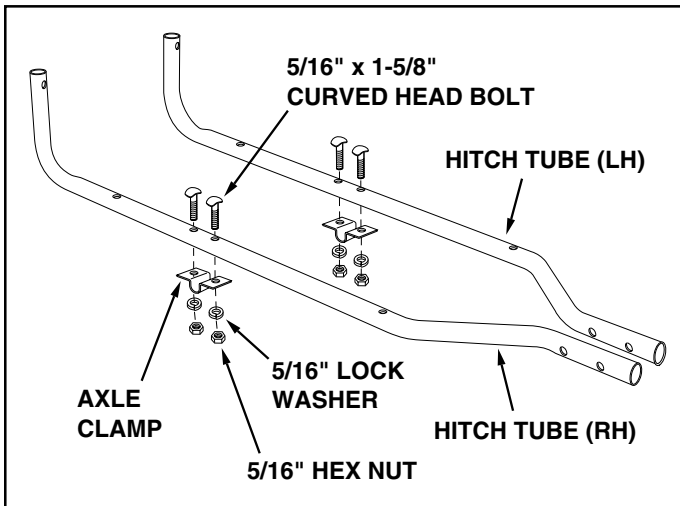
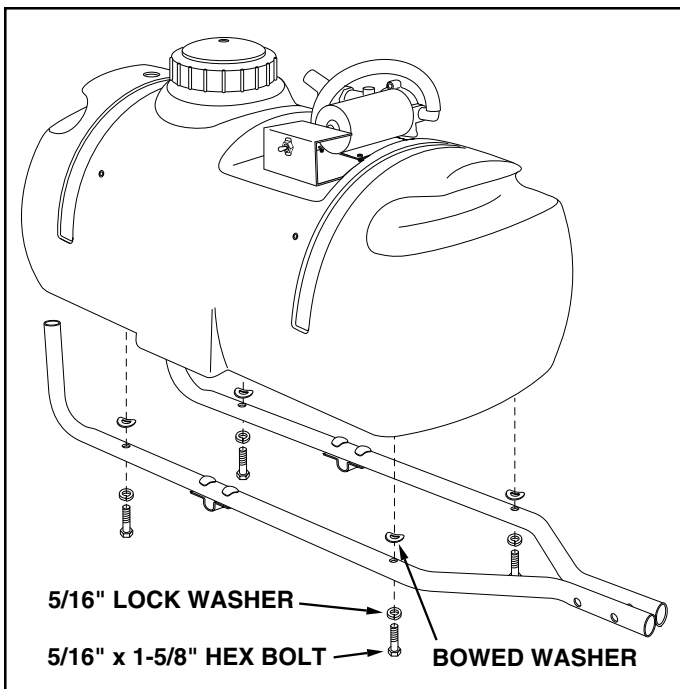

FIGURE 1
FIGURE 2
Your sprayer carton contains parts as shown in figure 1. The hardware package contains parts as shown in figure 2. Identify all parts and layout as shown in figures 1 and 2.
2. Assemble the axle clamps to the hitch tubes using four curved head bolts, 5/16" lock washers and 5/16" hex nuts. **Do not tighten yet.** See figure 1.
3. Assemble the hitch tubes to the tank using four 5/16" x 1-5/8" hex bolts, 5/16" lock washers and bowed washers. Place the bowed washers between the tank and the hitch tubes. **Do not tighten yet.** See figure 2.
- Tighten** the four bolts which fasten the hitch tubes to the bottom of the tank. See figure 2.
**Tighten** the four hex nuts which fasten the axle brackets to the hitch tubes. See figure 1.